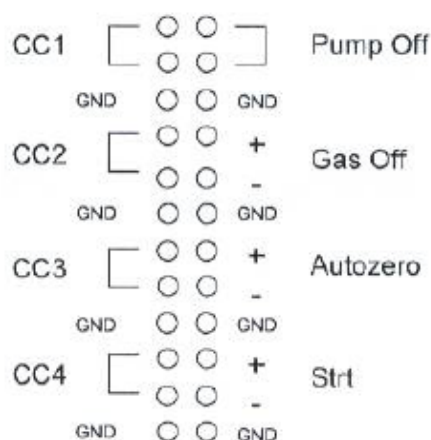

Figure 2-17: The I/O Connection Block
- **I/O Connections** - The Input/Output Connections block contains eight connections for interfacing the detector to external devices [such as an autosampler, a data station, pumps, valves, etc.] which can synchronize the operation of these devices (Figure 2-17). The inputs are TTL compatible and the outputs are true relays (contact closures). The two green terminal blocks must be installed before the inputs/outputs can be used. Make sure they are oriented and aligned properly before pushing or snapping them into place.